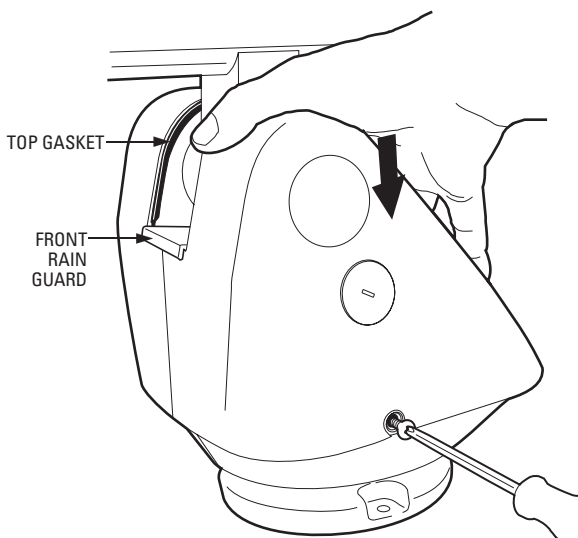

Figure 5. Fastening the Esprit Cover
- b. Apply pressure and push the top of the cover down to align the screw holes (refer to Figure 5).